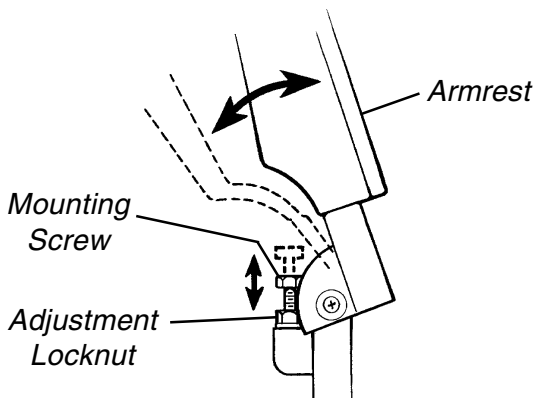

FIGURE 1 - ARMREST ANGLE ADJUSTMENT
**ARMREST ANGLE ADJUSTMENT (FIGURE 1)**